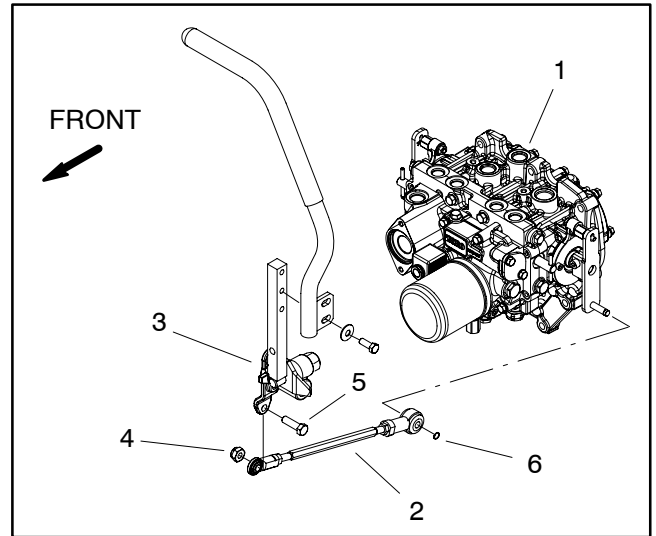
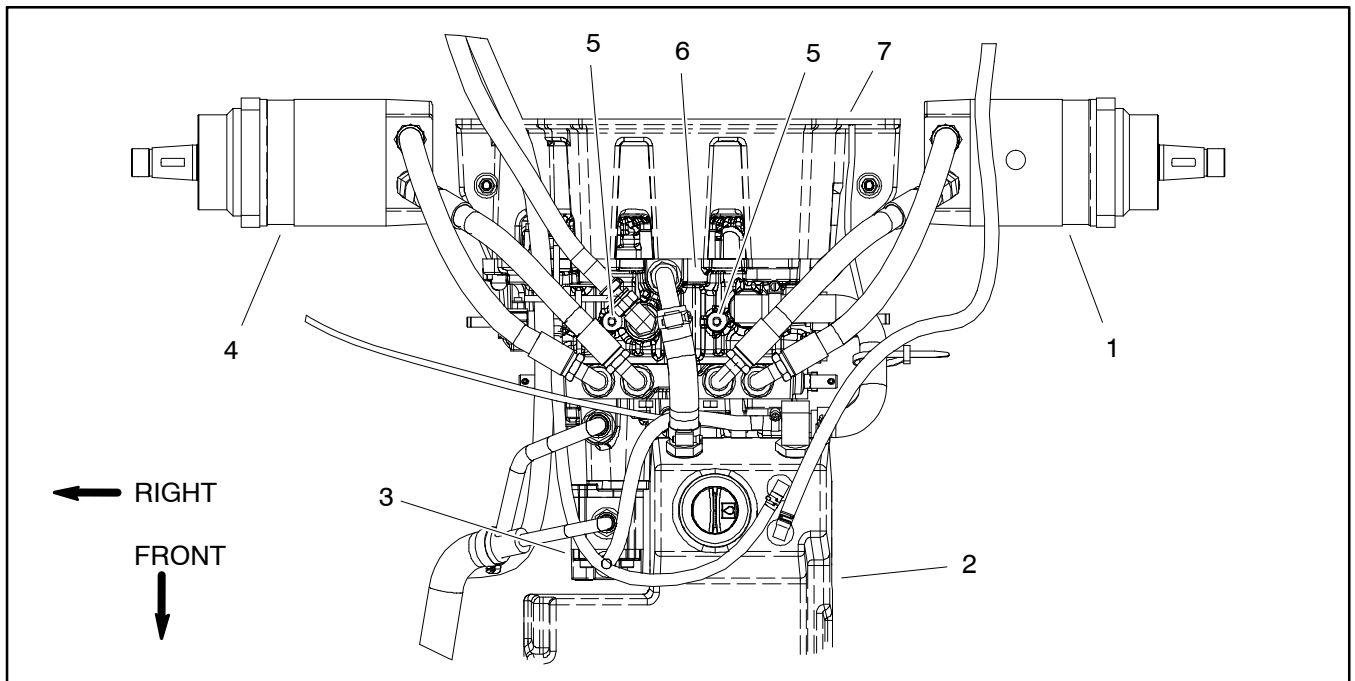

Figure 36
Figure 37
3. On both sides of machine, remove cap screw and lock nut that secures the pump control rod to the traction control hub (Fig. 36). Note that cap screw is installed from the outside toward the center of the machine.
**NOTE:** Two (2) 8 mm eyebolts can be installed into threaded bosses in top of transmission to allow use of a lift or hoist to remove transmission (Fig. 37).
11. Remove seven (7) cap screws and lock washers that secure the transmission to the flywheel housing. Note location of the shorter cap screw for assembly purposes.
13. Locate and note location of two (2) dowel pins from transmission and flywheel housing.
14. On both sides of transmission, remove retaining ring that secures pump control rod end onto transmission control arm (Fig. 36). Slide control rod from control arm.
4. Slide both pump control rods onto transmission control arms and secure with retaining rings (Fig. 36).
6. Place two (2) dowel pins in flywheel housing.
8. Secure transmission to the flywheel housing with seven (7) cap screws and lock washers. Make sure that shorter cap screw is properly positioned. Torque cap screws **400 in-lb (45 N-m)**.
10. On both sides of machine, secure the pump control rod to the traction control hub with cap screw and lock nut (Fig. 36). Note that cap screw is installed from the outside toward the center of the machine.